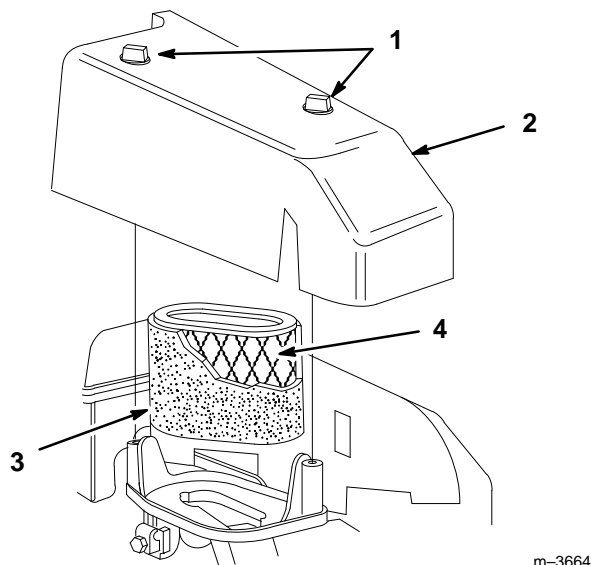

Figure 17
2. Loosen two (2) knobs securing air cleaner cover to engine (Fig. 17).